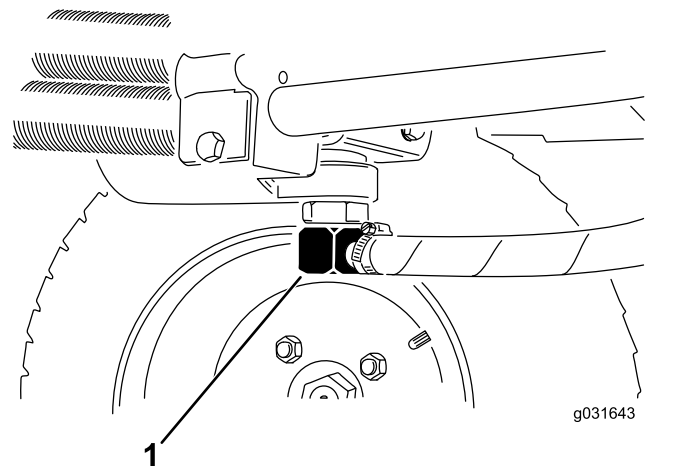

Figure 66
2. Disconnect the hydraulic line or remove the hydraulic filter and let the hydraulic fluid flow into a drain pan (Figure 68 and Figure 66).
3. Install the hydraulic line when the hydraulic fluid stops draining (Figure 66).